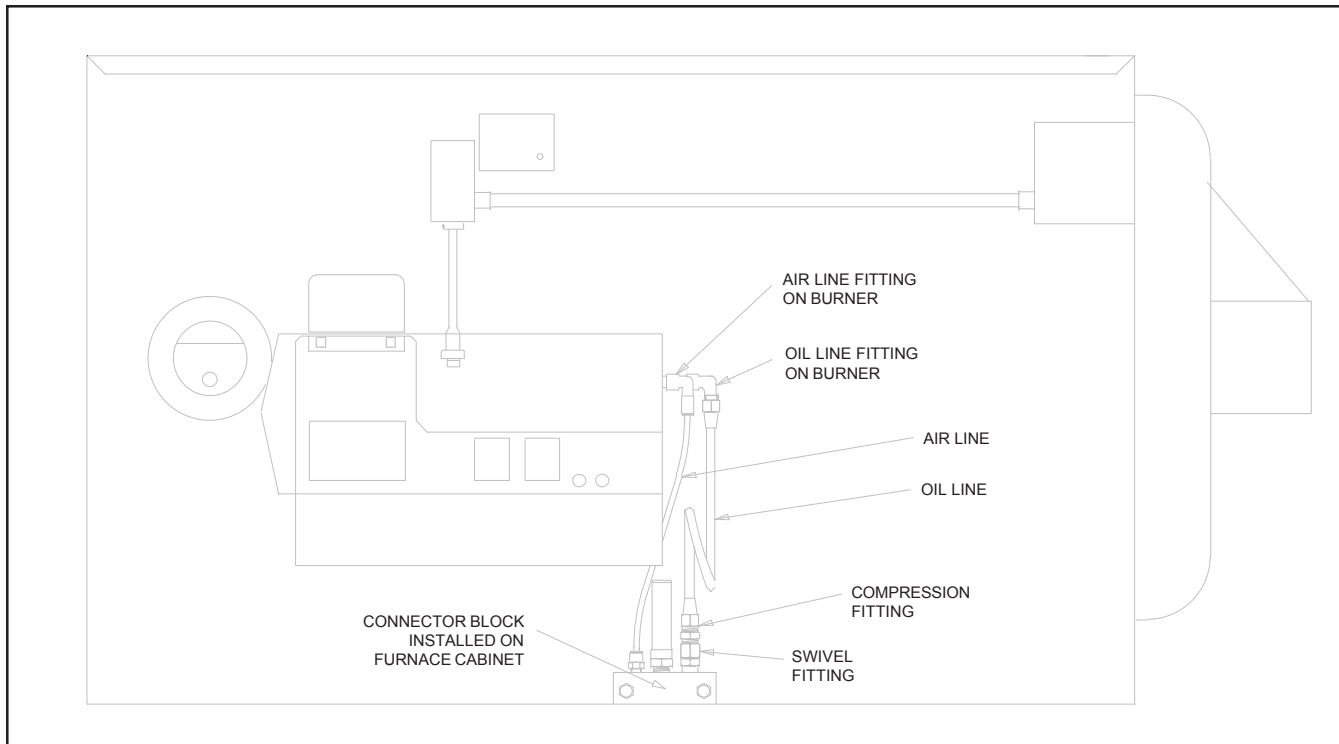

Figure 3M - Installation of Connector Block, Oil Line and Air Line (Front View)
NOTE: You may also check the positioning of the oil line according to Figure 3M on the next page which provides a larger front view of the connector block assembly.
2. Refer to Figure 3M. Push the air line tubing into the swivel fitting on the connector block until the tubing bottoms out in the fitting.